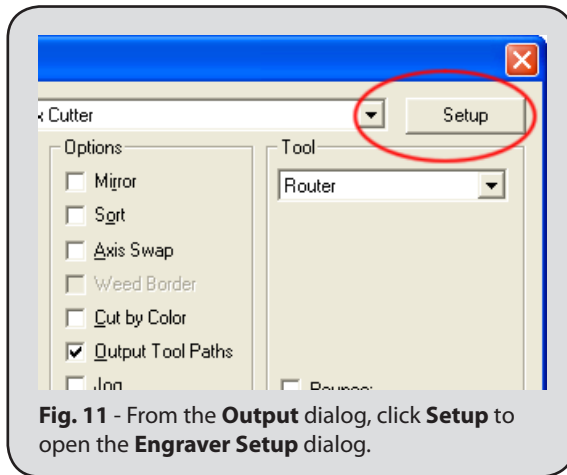

Fig. 11 - From the **Output** dialog, click **Setup** to open the **Engraver Setup** dialog.
11. Click the **Setup** button (Fig. 11).